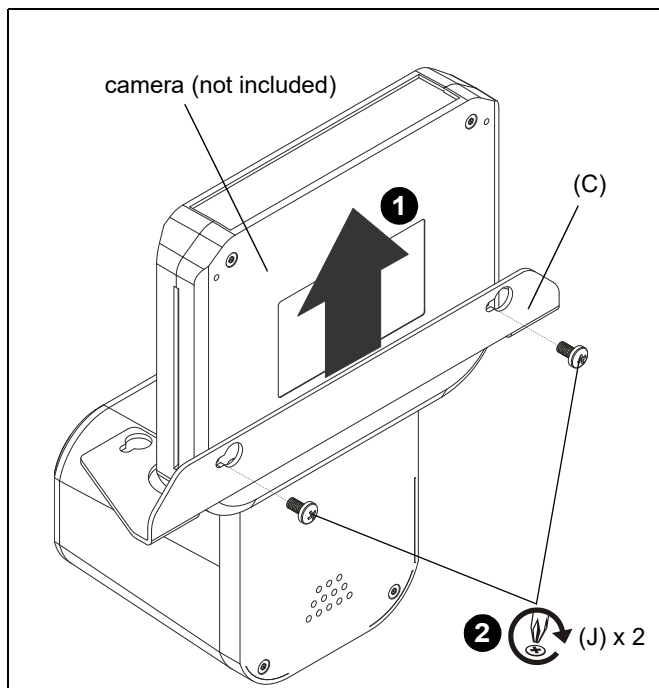

Figure 7
1. Position camera (not included) inside camera bracket (C) so that camera mounting holes line up with keyholes on back of bracket. (See Figure 7)
2. Use two M4 x 8mm Phillips pan machine screws (J) to secure camera bracket (C) to camera. (See Figure 7)